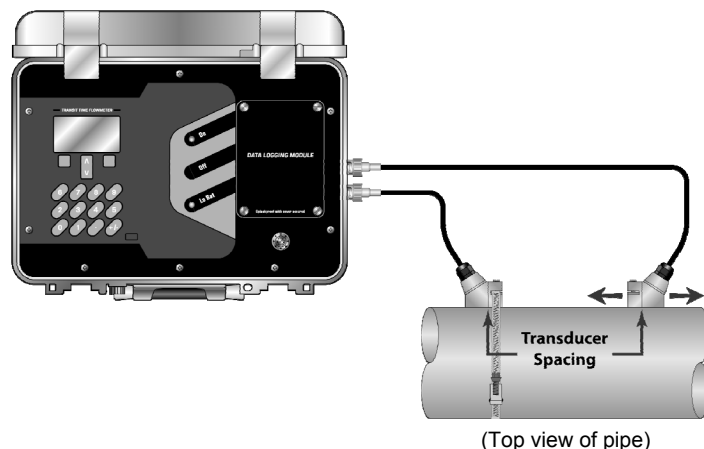

Figure 2.3 Transducer Position
3. Place the downstream transducer on pipe at the calculated transducer spacing. See **Figure 2.3**. Using firm hand pressure, slowly move the transducer towards and away from the upstream transducer while observing Signal Strength. Clamp the transducer at the position where the highest Signal Strength is observed. A Signal Strength between 3.0 and 95.0 percent is acceptable.